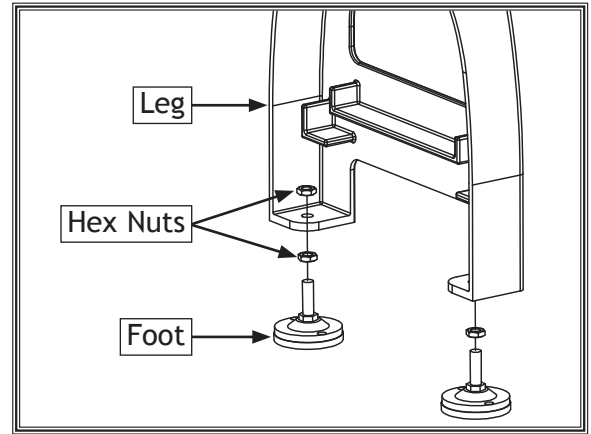

Figure 13. Machine feet positioned for installation.
6. Remove top hex nut from feet, insert feet into leg mounting holes (see **Figure 13**), then thread top hex nut back on. **DO NOT** tighten hex nuts yet.